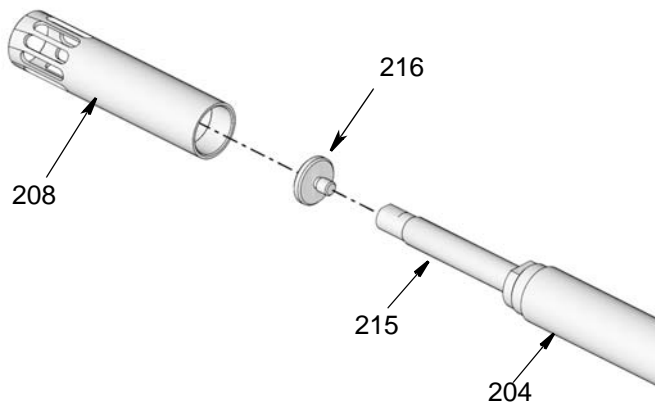

FIG. 44
**HP Pump:** Thread shovel piston (216) to the end of priming rod (215). Use a socket wrench on piston (216) and wrench on the flats of priming rod (215) to securely tighten shovel piston (FIG. 44). Torque to 145 to 155 in. lbs (16 - 17 N.m).
**NOTE:** Be careful when tightening the nut that the rod assembly does not twist and break the support pins (217) or bend any of the rod sections.
- a. Thread shovel piston (216) to the end of priming rod (215). Hand tighten.
- b. Tighten nut using a socket wrench on nut (219) and a second wrench on flats of priming rod (215) turning in the opposite direction.
17. Thread shovel cylinder (208) to pump cylinder (204) (FIG. 44). Use a wrench to tighten securely.